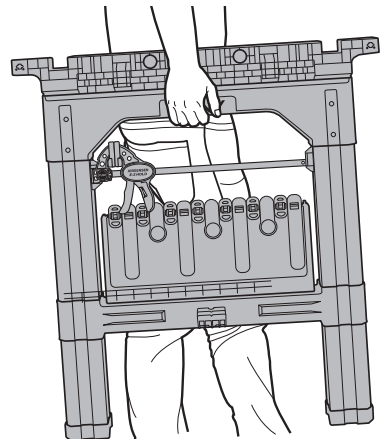

Figure 11
2. The fold flat Sawhorse for easy transport and storage. (Figure 11)